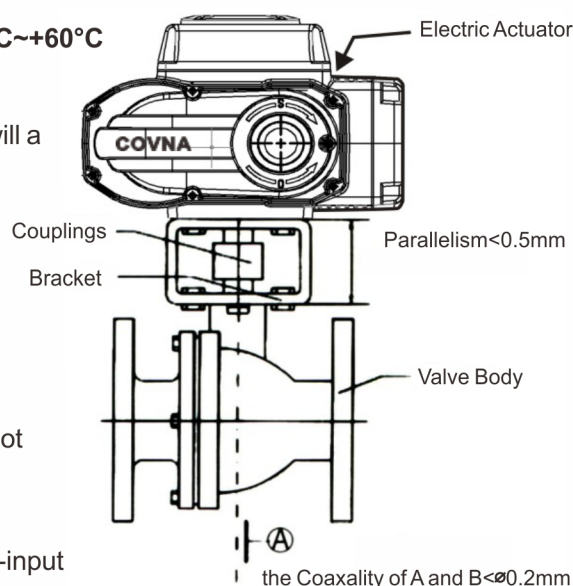

Figure 3
3. Installed on the valve body (Figure 3)